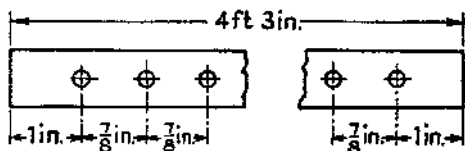

Fig. 1
(3) *Equally-spaced holes are drilled in a bar 4 ft 3 in. long as shown in fig. 1. Calculate the number of holes.*